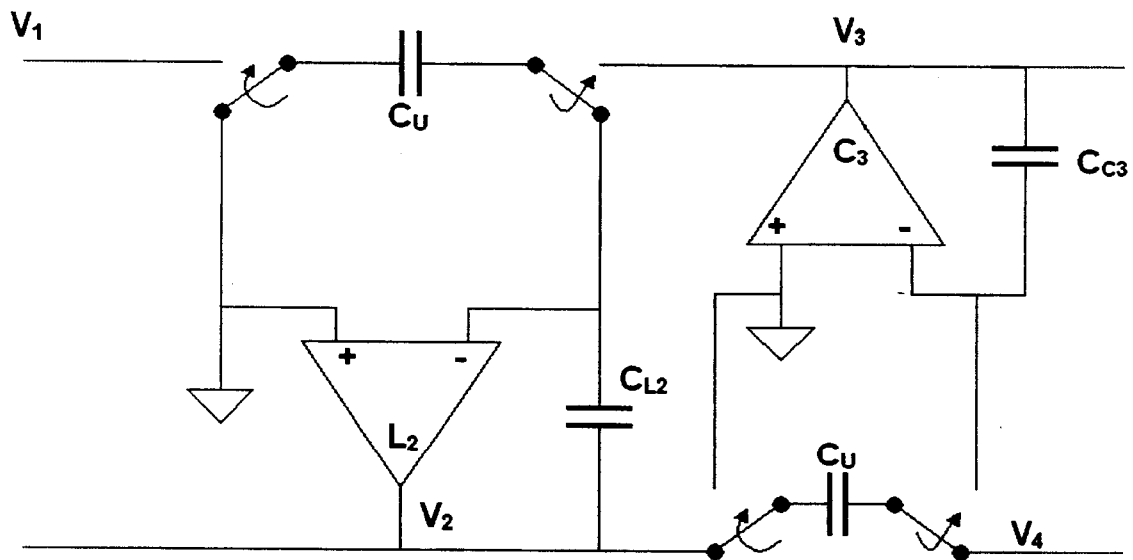

Figure 5.3
- (c) Figure 5.3 shows one section of a switched-capacitor ladder filter. Based on this filter structure design a 3rd-order Chebyshev low-pass switched-capacitor filter with a cut-off frequency of 5 kHz and a 1.0 dB pass-band ripple. Assume a clocking frequency of 100 kHz. Passive component values for the L-C prototype, normalised to 1 rad/s, are  $C_1 = C_3 = 2.0236$ ,  $L_2 = 0.994$ . In your analysis you may assume all integrators to be lossless. [8]